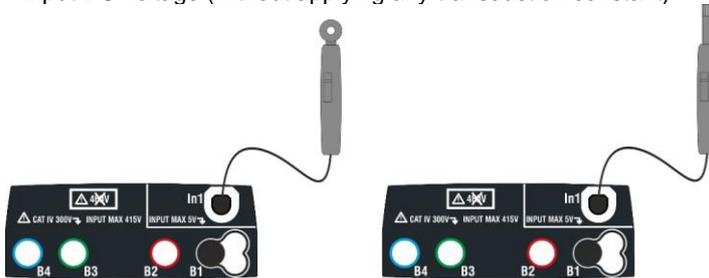

Fig. 33: Measurement of environmental parameters through external probes
5. Insert in the auxiliary **In1** input the transducer necessary for the desired measurement as shown in Fig. 33